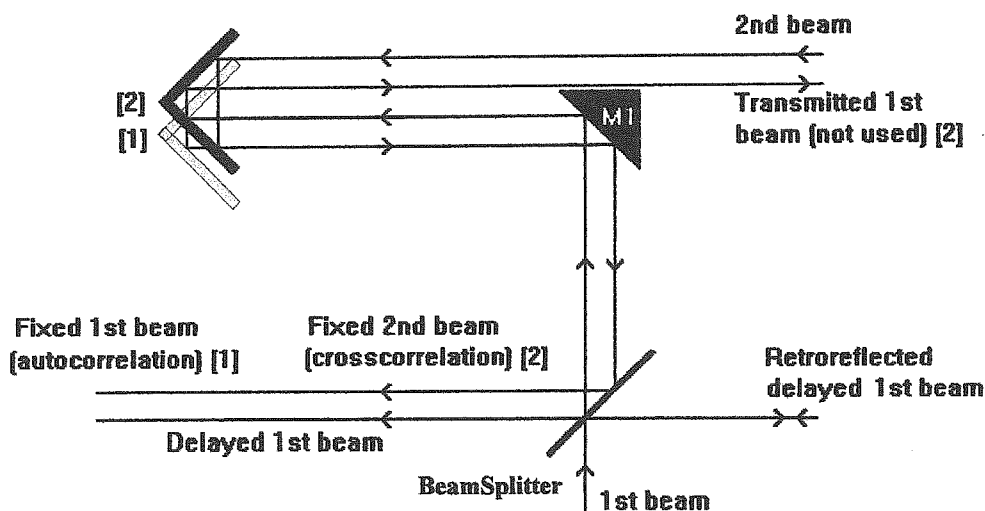

Figure 9 FR-103MN Schematic of Crosscorrelation Operation
(i) The first beam is incident at the front aperture with the unit aligned as for autocorrelation (AC) (position [1] of corner mirror in Figure 9 below).